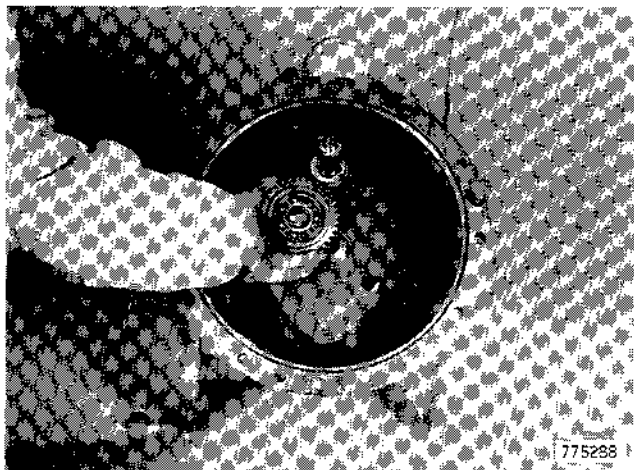

Figure 12
7. Remove idler gear, Figure 12.